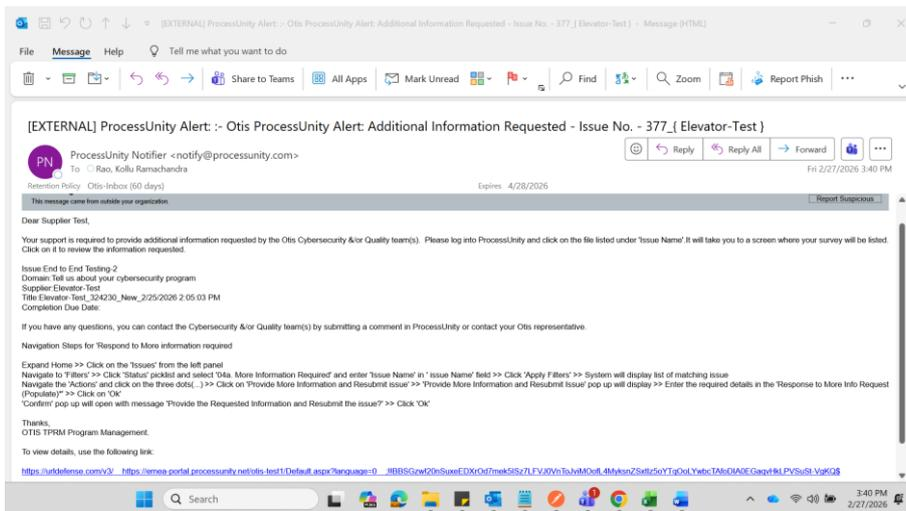

Figure 30
1. Supplier receives an email notification to provide additional information. Now the issue has the status as **"04a. More Information Required"** (Refer figure 30)